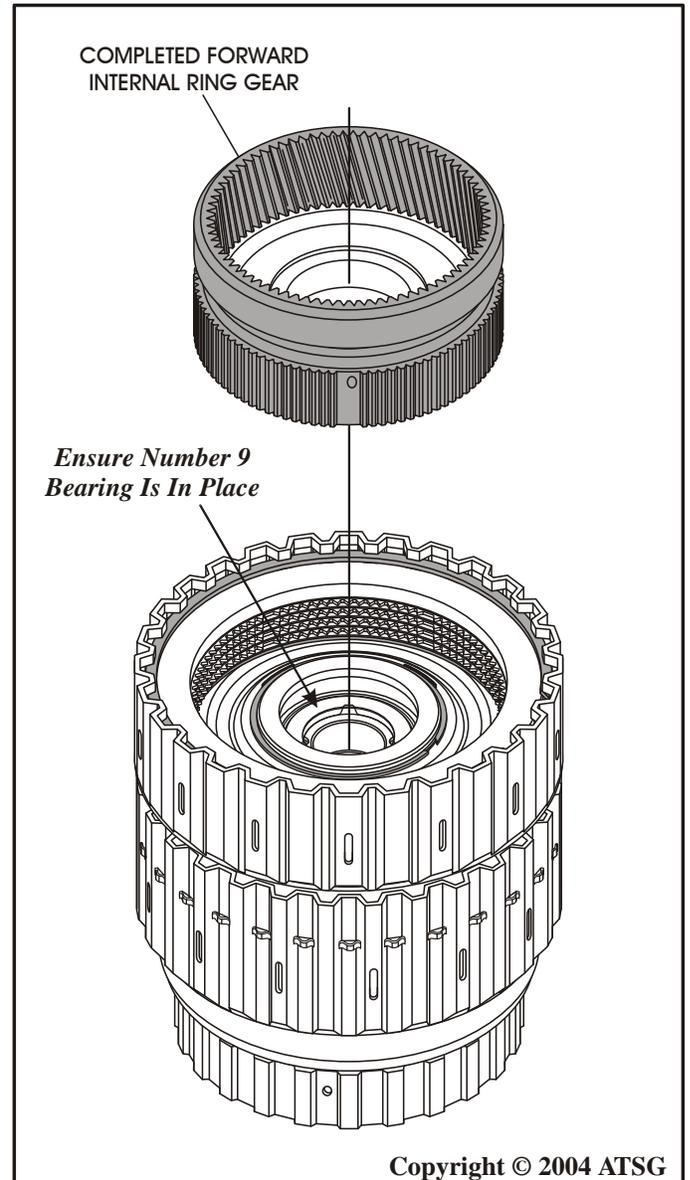

Figure 146
3. Ensure that the number 9 thrust bearing is still in place, as shown in Figure 146.
4. Install completed forward ring gear assembly, as shown in Figure 146, by rotating back and forth to engage the forward clutch frictions, until fully seated.